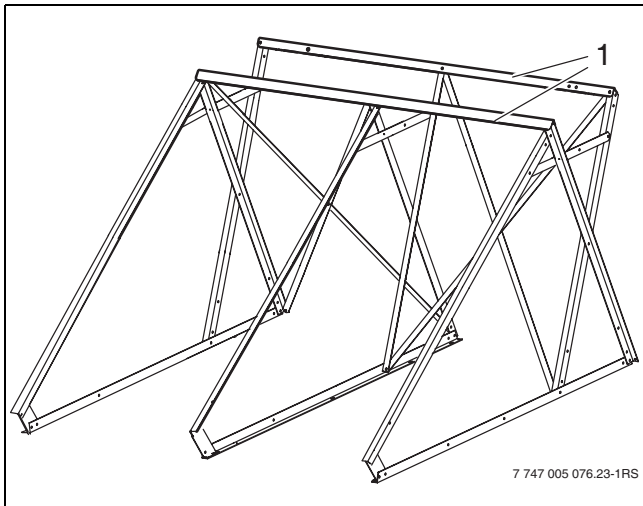

Fig. 15 Securing the cylinder support bracket
- ▶ Initially only secure cylinder support bracket (Fig. 15, [1]) at the right and left to the wind brace cross and cylinder support rail.